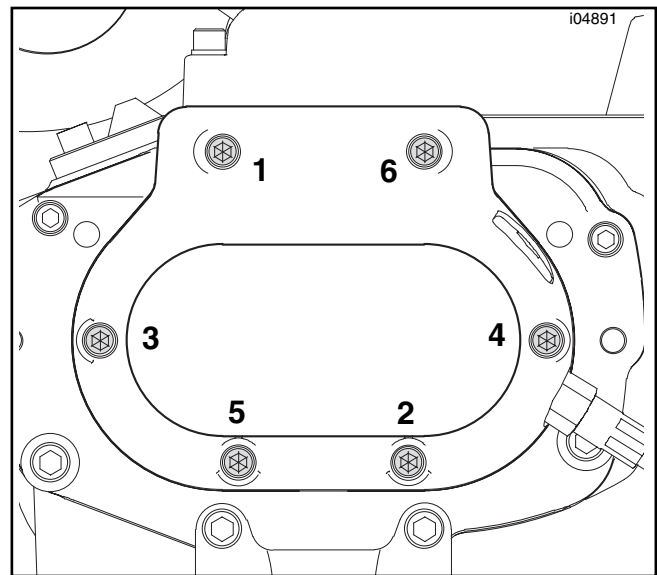

Figure 2. Transmission Side Cover Screw Torque Sequence
7. Refer to Figure 2. Tighten the cover screws, in the sequence shown, to 120-144 **in-lbs** (14-16 Nm).